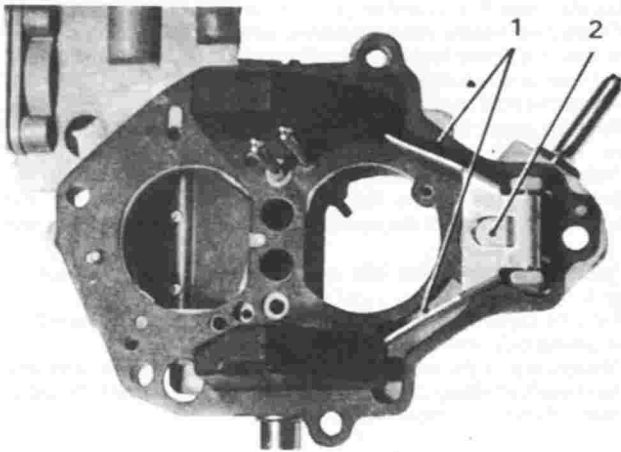

Fig. 17.8 Float level adjustment (Sec 4)
10 Adjust as necessary by bending the inner float tag (2) in Fig. 17.8.